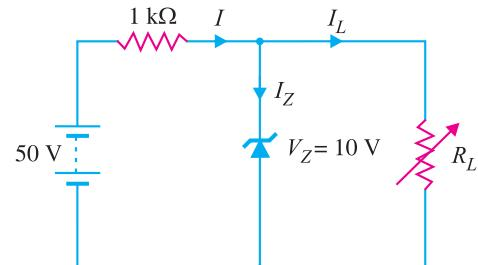

**Fig. 6.78**
11. Find the average value of each voltage in Fig. 6.78. [(i) 1.59 V (ii) 63.7 V (iii) 16.4 V (iv) 10.5 V]